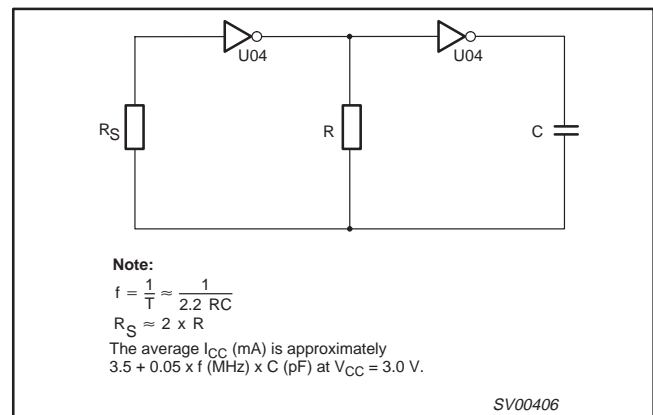

Figure 6. LVCU04 used as an astable multivibrator.
- Astable multivibrator (see Figure 6)
Note to Figure 6